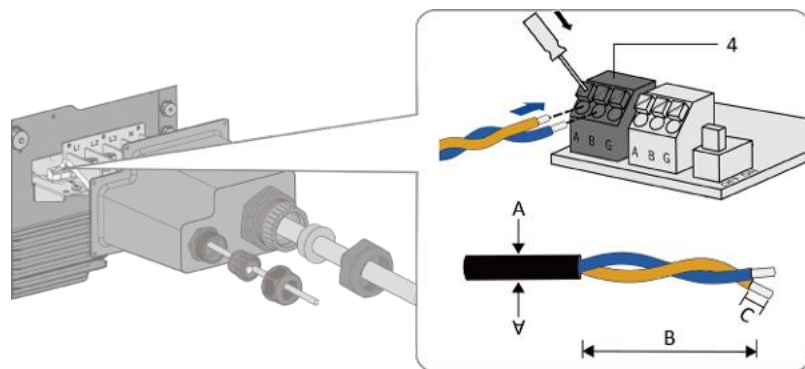

Fig. 38. Connect wires to the terminal block
6. Insert and secure the twisted pair to the terminal block (see Fig. 38).